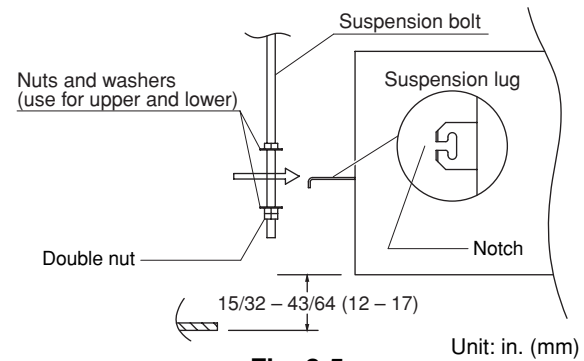

Fig. 3-5
- (2) The length of suspension bolts must be appropriate for a distance between the bottom of the bolt and the bottom of the unit of more than 19/32 in. as shown in Fig. 3-5.
- (3) Thread the 3 hexagonal nuts and 2 washers (field supply) onto each of the 4 suspension bolts as shown in Fig. 3-5. Use 1 nut and 1 washer for the upper side, and 2 nuts and 1 washer for the lower side, so that the unit will not fall off the suspension lugs.
- (4) Adjust so that the distance between the unit and the ceiling bottom is 15/32 to 43/64 in. Tighten the nuts on the upper side and lower side of the suspension lug.
- (5) Remove the protective polyethylene used to protect the fan parts during transport.